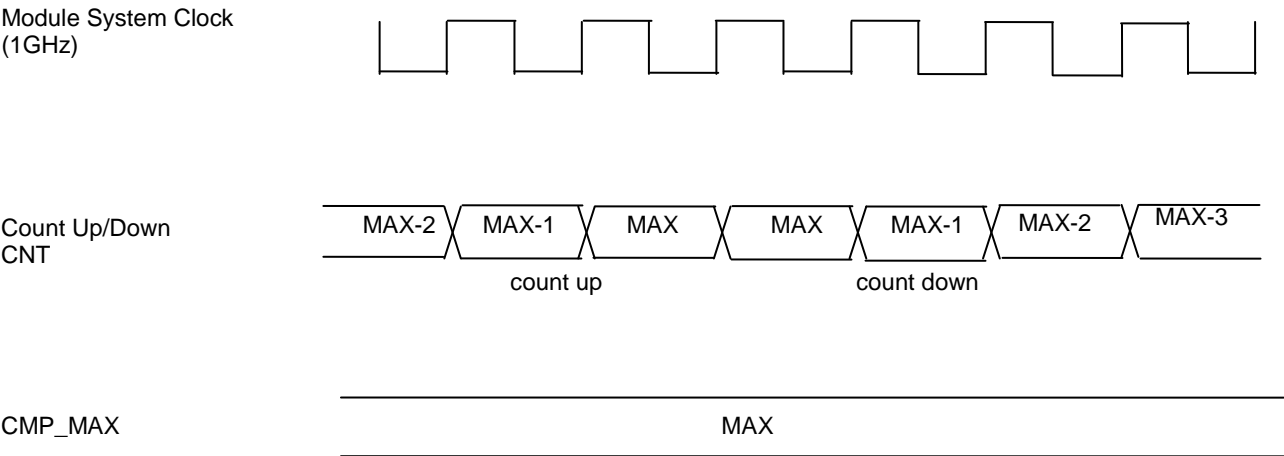

Figure 14-12 Counter Up to Down Change Timing in Up-Down Mode
- (3) CNT Up to Down changing Timing in Up-Down Mode
- The CNT Changing Timing from Up count to Down count is shown in Figure 14-12. Conditions of this example are